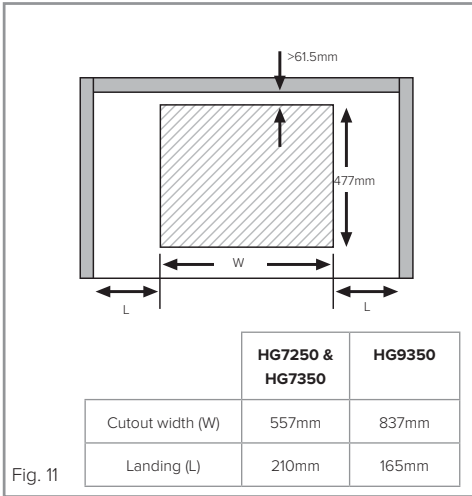

Fig. 11
This appliance must be installed a minimum of 50mm from any back wall and a minimum of 150mm away from any adjacent vertical surfaces, e.g. a tall cupboard end panel. This may be reduced to 100mm if the adjacent surface is resistant to fire (tiles or steel, for example). These dimensions are shown in Fig. 11.
1. Make the required hole in the worktop. Note that before doing this, check the instructions supplied with any cooker hood to ensure that you will have the required clearance. The cut-out (Fig. 11) shows a 61.5mm gap from the wall to the cut-out edge. The distance for the hob, when fitted, to the back wall is 50mm.